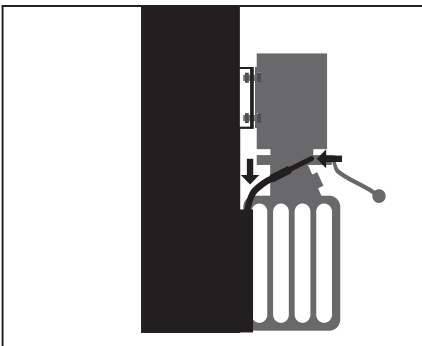
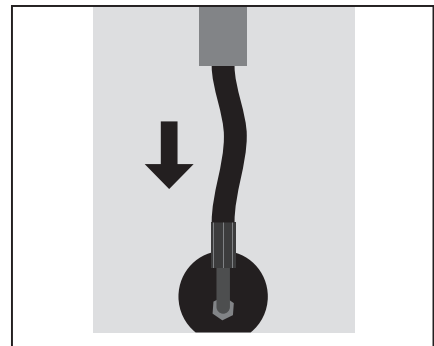

Fig. 14
Fig. 15
1. Connect hydraulic hose between pump and cylinder (Fig. 14, Fig. 15)